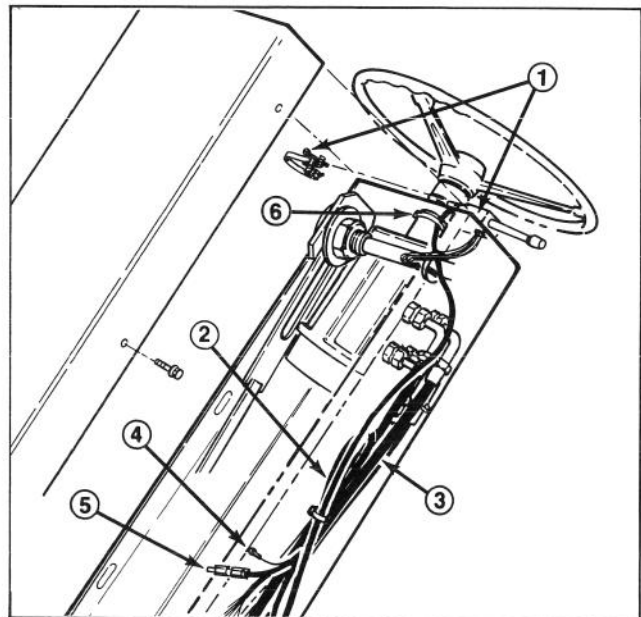

Figure 16
2. Install signal controller to left side of steering column. Position the signal controller clamp on the right side and tighten the clamp (Fig. 16).
3. Bundle the excess cable together and secure it to a power steering hose with cable ties (Fig. 16).